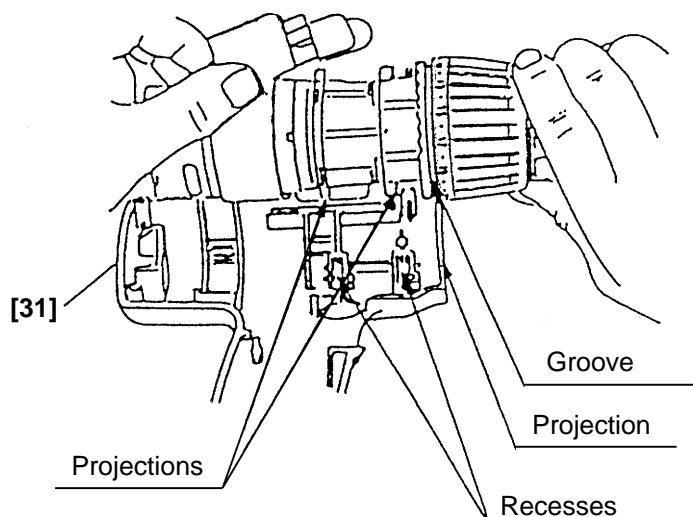

Fig. 15
- (b) Install the assembly reassembled in step (3) into Housing (A) [31]. Note that the projections on the Front Case [9] and the Motor Spacer [24] are engaged in the recesses in Housing (A) [31], and the projection on Housing (A) [31] is engaged in the groove of the Cap [4]. (See Fig. 15.)